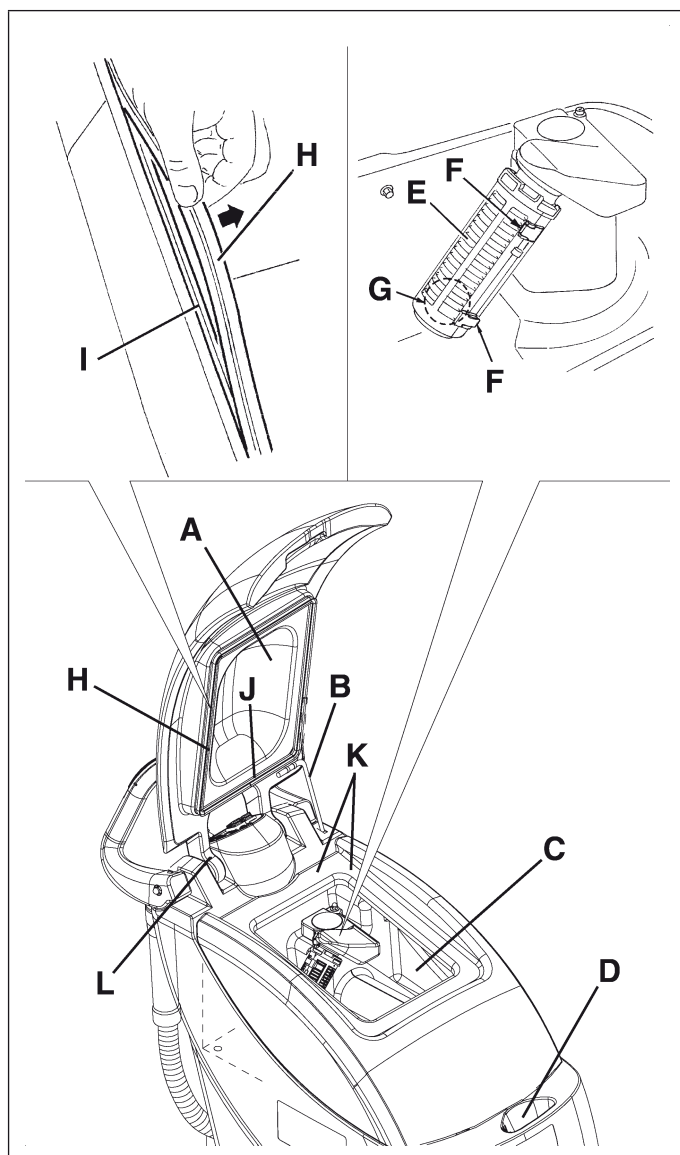

Figure 19
3. Lift the cover (A, Fig. 19) and apply the cover stand (B), then clean and wash the cover, the tanks (C and D) and the vacuum grid (E) with clean water.
4. If necessary, release the retainers (F, Fig. 19), open the vacuum grid (E), remove the float (G), then carefully clean and reinstall them.
5. Check the cover sealing gasket (H, Fig. 19) of the recovery tank for wear.
The gasket (H, Fig. 19) creates vacuum in the tank, which is necessary for the vacuuming of the recovery tank.
If necessary, replace the gasket (H, Fig. 19) after removing it from the housing (I).
When reassembling the new gasket, install the joint (J) in the central area, as shown in Fig. 19.
6. Check the gasket (H, Fig. 19) seating surface (K) for integrity and sealing capabilities.
7. Check the vent hole (L, Fig. 19). If clogged, clean it.
The hole (L, Fig. 19) compensates the air in the cover interspaces, thus allowing the creation of vacuum in the recovery tank.
8. Remove the cover stand (B, Fig. 19) and close the cover (A).